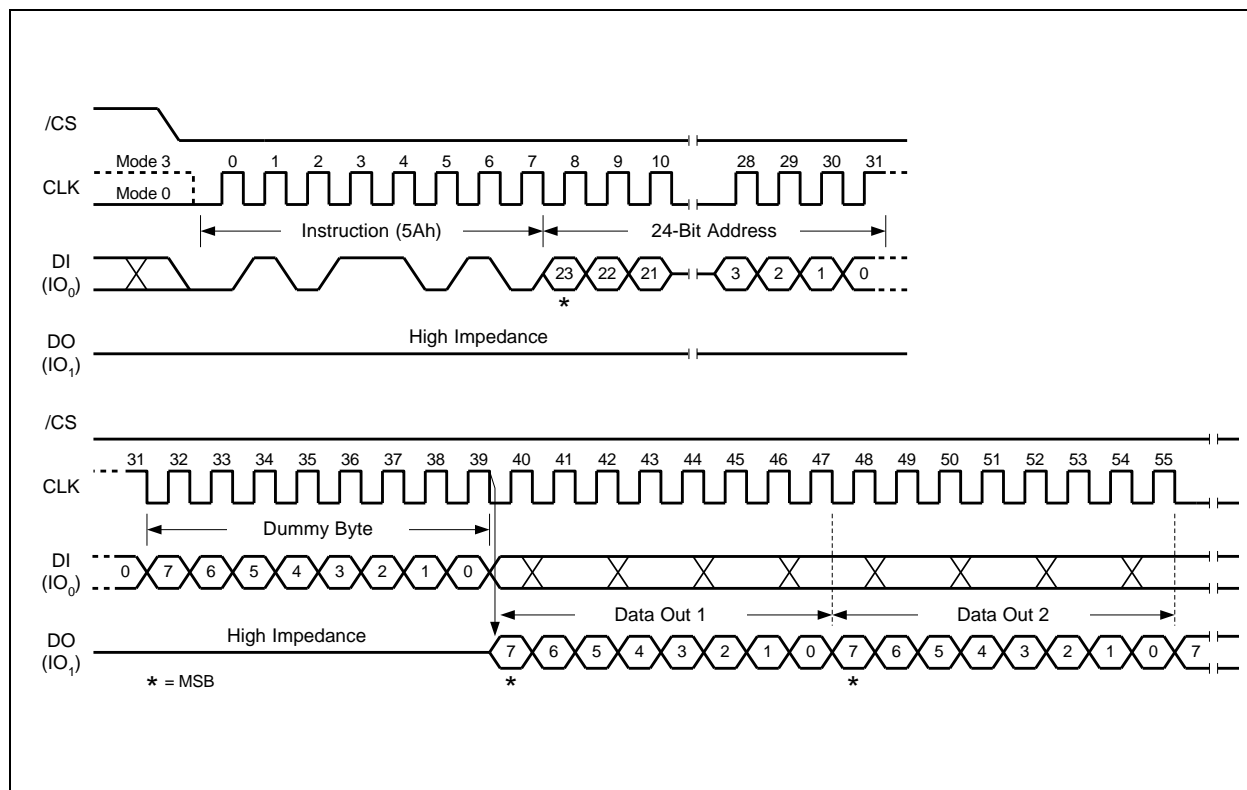

Figure 34. Read SFDP Register Instruction Sequence Diagram
The Read SFDP instruction is initiated by driving the /CS pin low and shifting the instruction code “5Ah” followed by a 24-bit address (A23-A0)(1) into the DI pin. Eight “dummy” clocks are also required before the SFDP register contents are shifted out on the falling edge of the 40th CLK with most significant bit (MSB) first as shown in Figure 34. For SFDP register values and descriptions, please refer to the Winbond Application Note for SFDP Definition table.